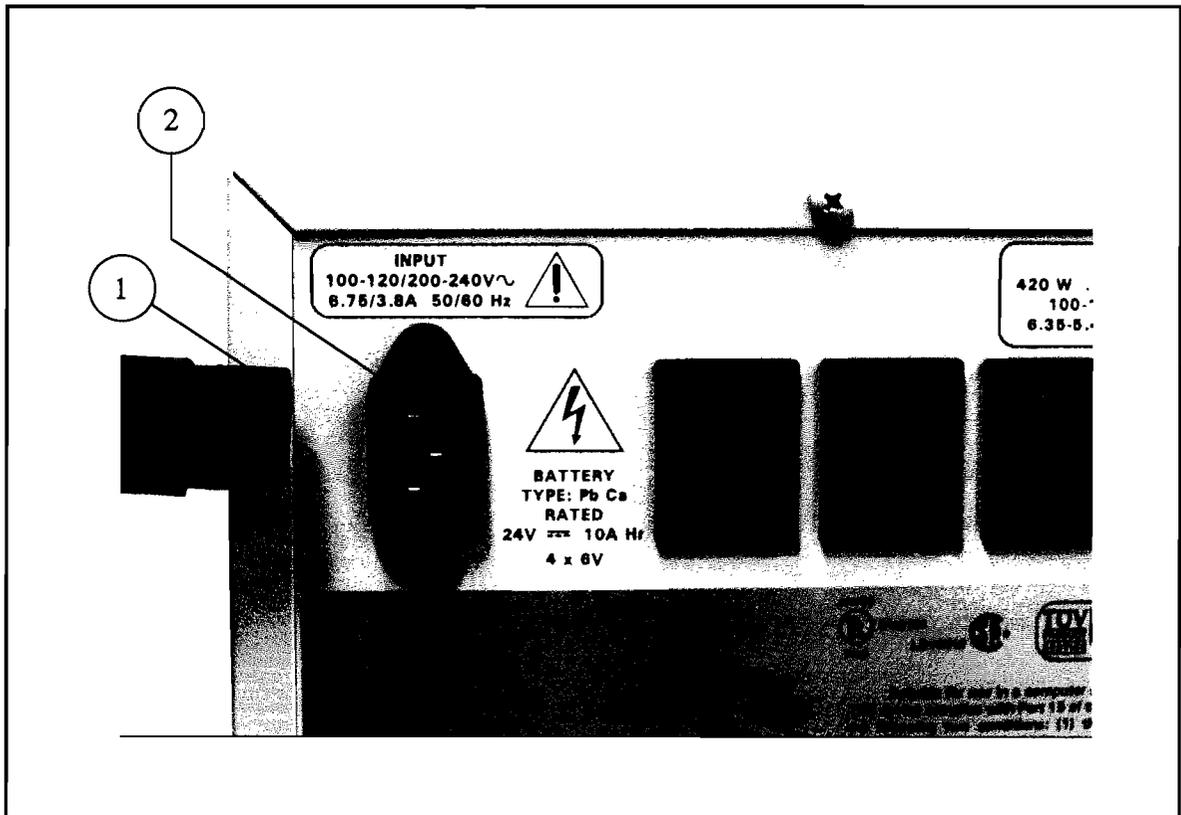

Figure 2-4. Line Cord Connection
1. Be sure the **Output** switch is in the OFF (O) position.
3. Attach the line cord ① to the **Input Receptacle** ②. Refer to Figure 2-4.